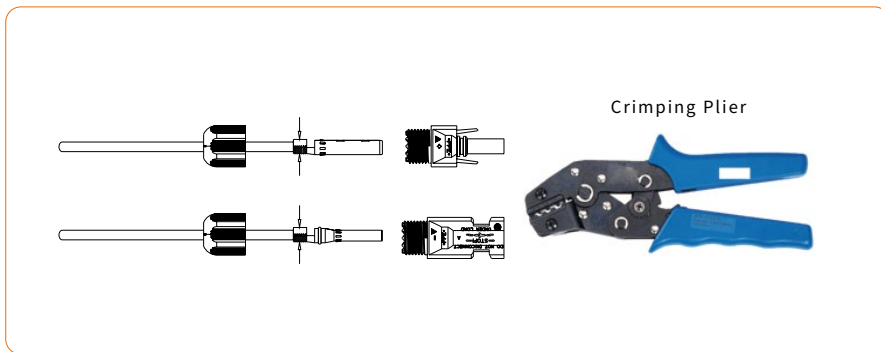

Figure 4-14
4) Insert the DC cable through the DC connector nut into the metal terminal and press the terminal with a professional crimping plier (pull back the cable with some power to check if the terminal is well connected to the cable), as shown in Figure 4-14: